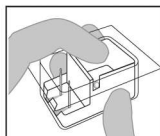
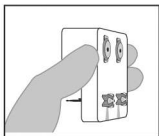

Figure 7-1
Figure 7-3
3. Being careful not to touch the studs, flip the plastic mount up with the index finger enough to grasp the sides of the mount with the thumb and middle finger (Figures 7-1 & 7-2). Lift the mount out of the sterile container. The studs should be at the bottom of the mount and the clasps at the top of the mount (Figure 7-3).